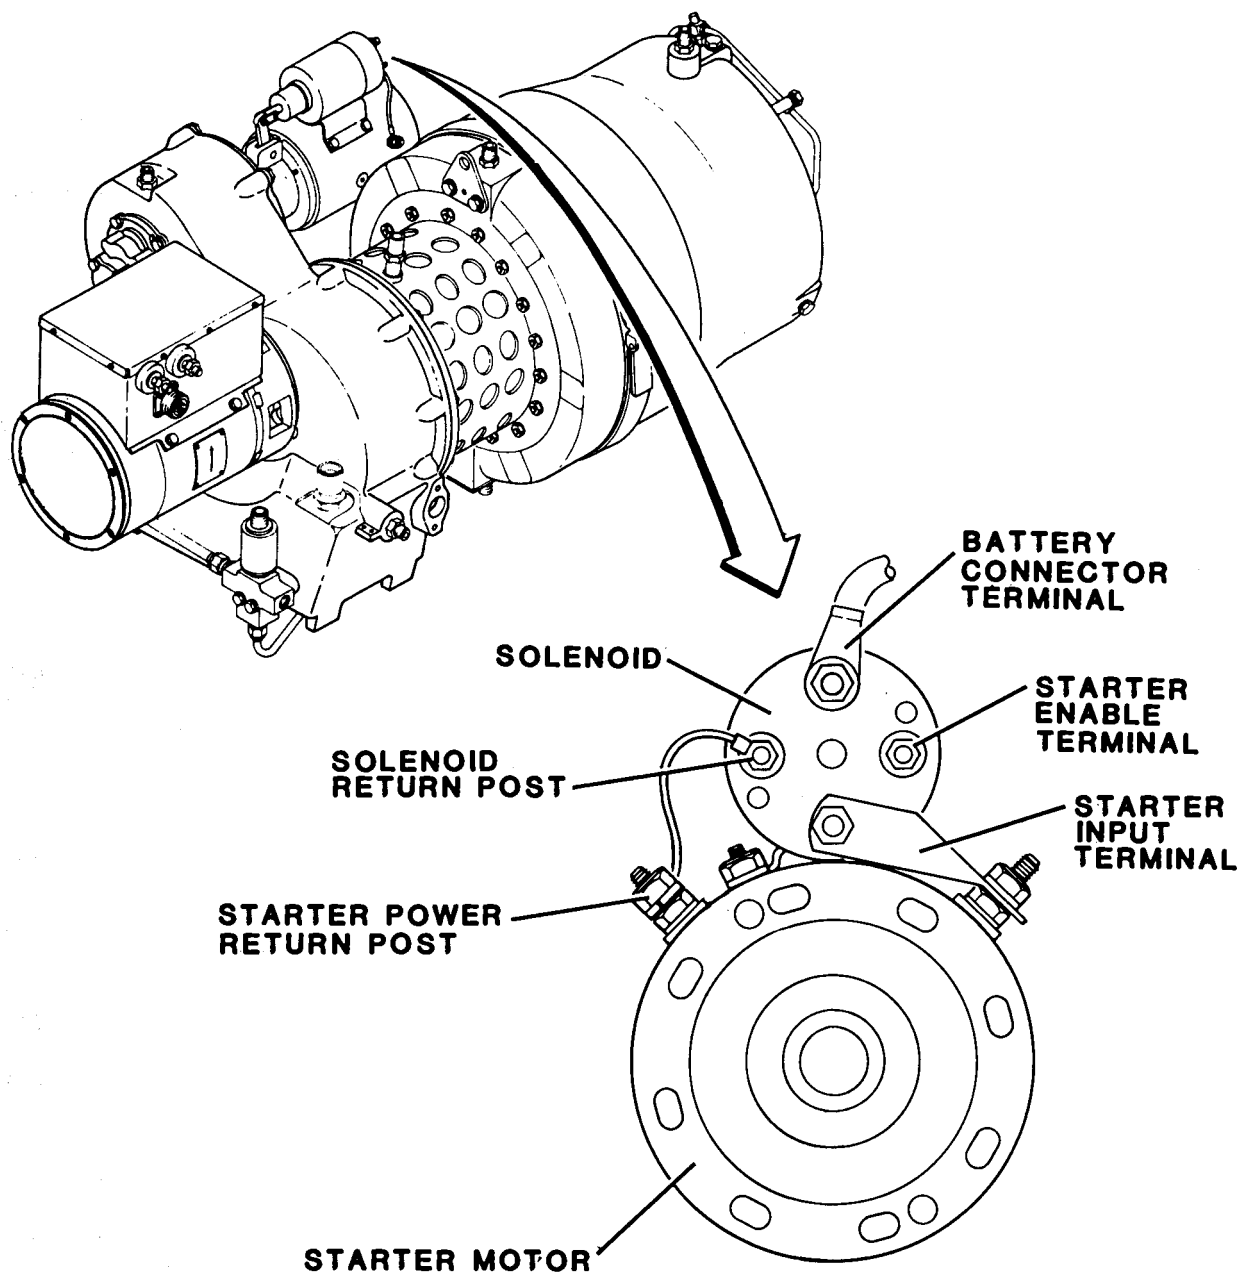

Figure 4-19. Starter Test Point Locations
a. Test. Refer to figure 4-19 for starter test point locations.
(1) Loosen turnlock fasteners and remove engine housing access cover.
(2) Using multimeter, place positive lead on battery connector terminal and negative lead on starter power return post. Multimeter should read 24 Vdc. If not, check battery cable (paragraph 4-26).
(3) Move negative lead to solenoid return post. Multimeter should read 24V. If not, wire from solenoid return post to starter power return post is damaged and should be replaced.
(4) Open control panel access door.
(5) Move MASTER SWITCH to START position.
(6) Watch yoke for forward movement and listen for sound of solenoid moving. If no movement or sound, check voltage between starter enable terminal (+) and starter power return post (-). If 24 Vdc present, replace solenoid.
(7) If yoke moves but starter does not rotate, check for 24V at starter input terminal. If 24V are present, starter is bad. If no 24V reading, solenoid is bad.
(8) Move MASTER SWITCH to OFF position.
(9) Close control panel access door.
(10) Install engine housing access cover and secure with turnlock fasteners.